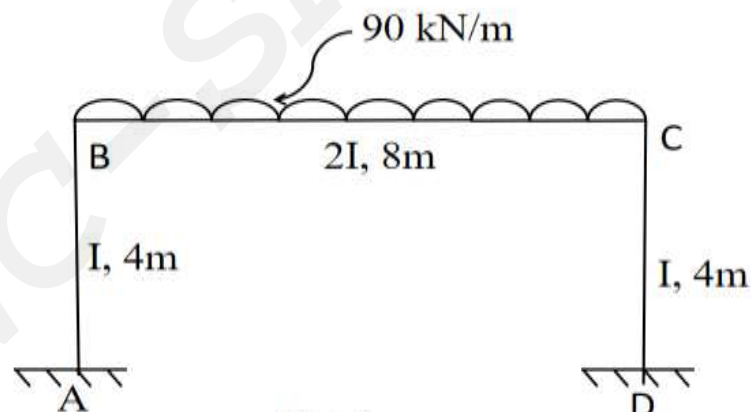

Fig.4
- 5 a) With the help of suitable figures, list the conditions under which a portal frame may sway laterally. (5)
- b) Write down the analysis procedure of a continuous beam by Kani's method. (5)
- c) What do you understand by support settlement and how does it affect the final moments in a continuous beam? (5)
- 6 Analyse the portal frame in Fig.4 by Kani's method and draw BMD. (15)